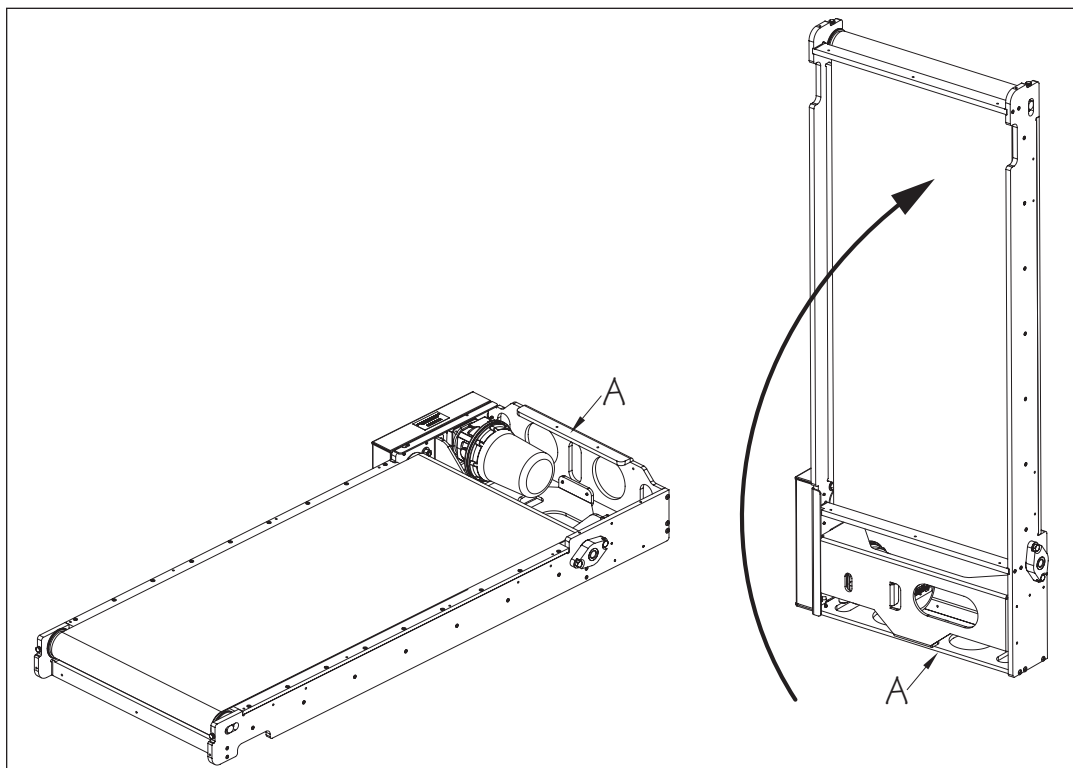

Fig. 3
1. With a minimum of two people, carefully lift and rotate the Fastlane Tread upright, onto its front end (A) (Fig. 3).